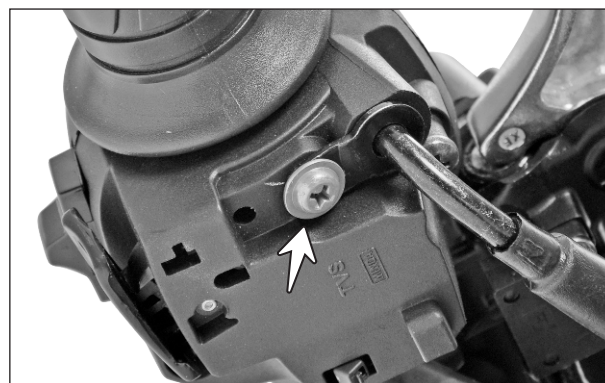

Fig. 2.74
- Remove the throttle cable locking screw from throttle case lower. (Fig. 2.74)